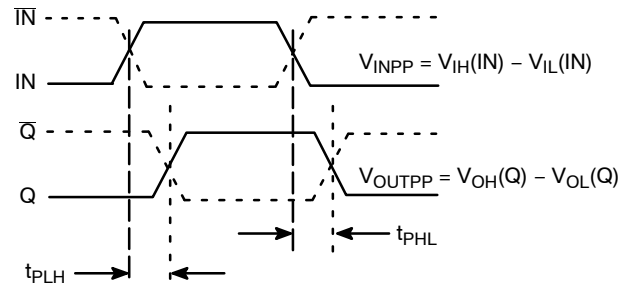

Figure 6. AC Reference Measurement
**DATA/CLOCK INPUTS ( $I_N$ ,  $I_{\bar{N}}$ )** (Note 3) (Figures 6 & 7)